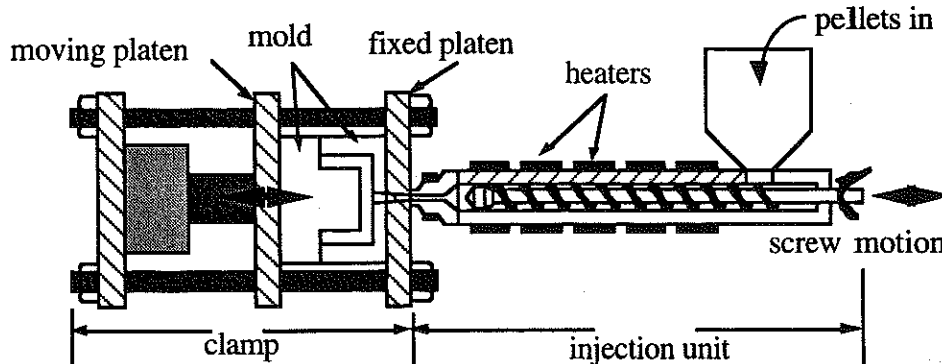

Figure 3: Diagram of injection molding.
**Figure 3.** Two double-crossover molecules (red and blue) connected by a bridge element (yellow) that can be converted from B-DNA (top) to Z-DNA (bottom) by the addition of hexaaminocobalt(III) chloride (and converted back again by its removal) form the basis of a DNA nanomechanical device. The change is monitored by attached fluorescent dyes represented by the stippled circles.
DNA arrays also could form the basis for nanomachines. In one effort in this direction, Seeman and colleagues developed a DNA structure that could be rotated back and forth between two positions. To do this, they connected two DX molecules with a DNA "shaft" that can be converted from right-handed B-DNA to left-handed Z-DNA by the addition of  $\text{Co}(\text{NH}_3)_6\text{Cl}_3$  (Figure 3).